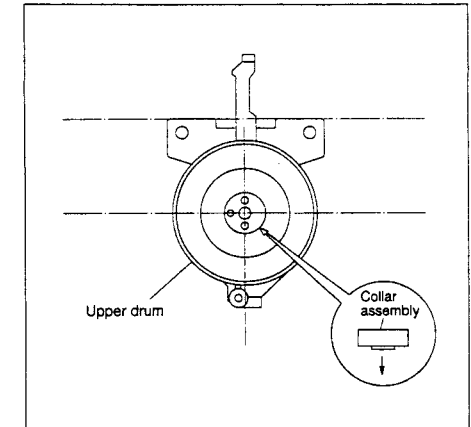

Fig. 2-2-41
- (3) Position the collar assembly as indicated in Fig.2-2-41 while controlling its up-down movement.